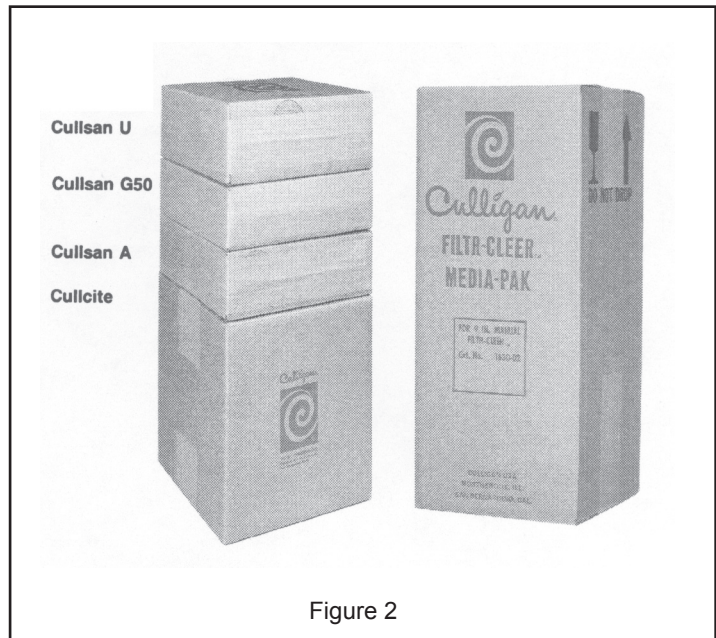

Figure 2
- Open the media pack(s) by cutting along the bottom of the carton and lifting up to expose the four individual media packages. See Figure 2.